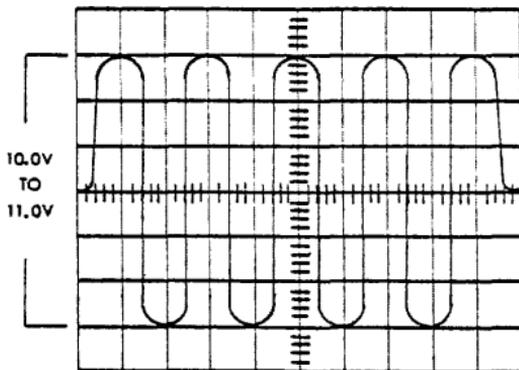

FIGURE 7
- The wave form (as viewed on the scope) should appear as in Figure 7. The distance from peak-to-peak must fall between 10.0V to 11.0V.